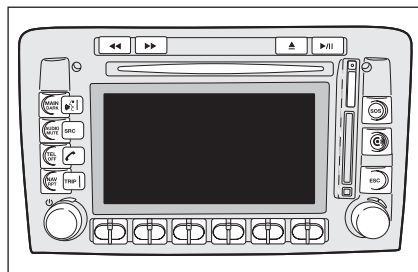

fig. 4
- ☐ with Connect Nav + **fig. 4**.